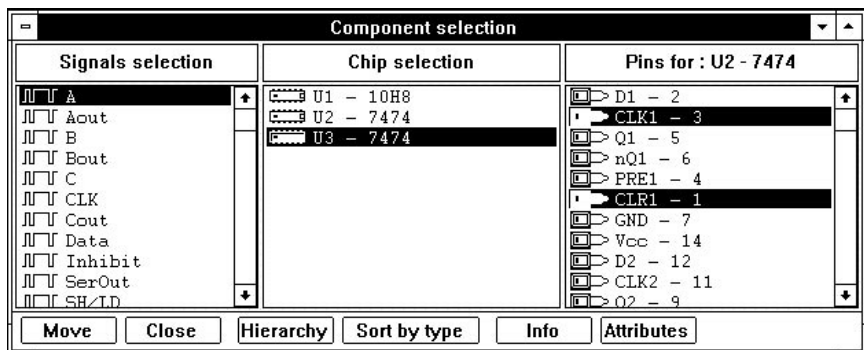

Figure 2-12. Selecting Pins And Signals.
To select signal names and IC pins to display in a waveform window, click on the **Select Probe** button  (#6 in Figure 2-2), or select the **Add Signals** option from the **Signal** menu. The **Component Selection** window will appear (Figure 2-12), which will list all parts and signals.
- ☐ direct dragging; just click on the selected signal or pin name in Figure 2-12 and holding the mouse button down drag it to the Waveform Viewers **Signal** field and then release it.
- ☐ double-click on the selected pin or signal name in Figure 2-12. It is instantly moved into the **Waveform Viewer** window.
- ☐ Position the cursor over the **Signal Selection** or **Pins For** field (Figure 2-12) and click the right mouse button. When ACTIVE-CAD displays local menu (Figure 2-13), click on the **Select All** option. Next, holding down the **{Ctrl}** key, click on the signals that you want to de-select from the group of signals/pins. After the selection has been completed, click on the **Move** button.
When the selection of signals has been completed, click the **Close** button to close the **Component Selection** window in Figure 2-12.
To select device pins, double-click on the desired component in the Chip Selection field (Figure 2-12). ACTIVE-CAD will display a list of pins of the selected device or macro. This list is shown in the right-hand window of Figure 2-12. The selection of device/macro pin names to display is similar to the selection of signal names (double-clicking, dragging, **Move** button, the right mouse button menus).
The **Chip Selection** field in Figure 2-12 lists all the components at the selected hierarchical level. The gray devices and macros are active electronically. The white ones are either disabled by the selective simulation option or they have no model and will not be simulated.
The left-hand field of Figure 2-12 displays all device pins in the selected node. If you double-click on a pin, all other pins of that device will also be displayed. Double-clicking on any of these pins will select its connec-